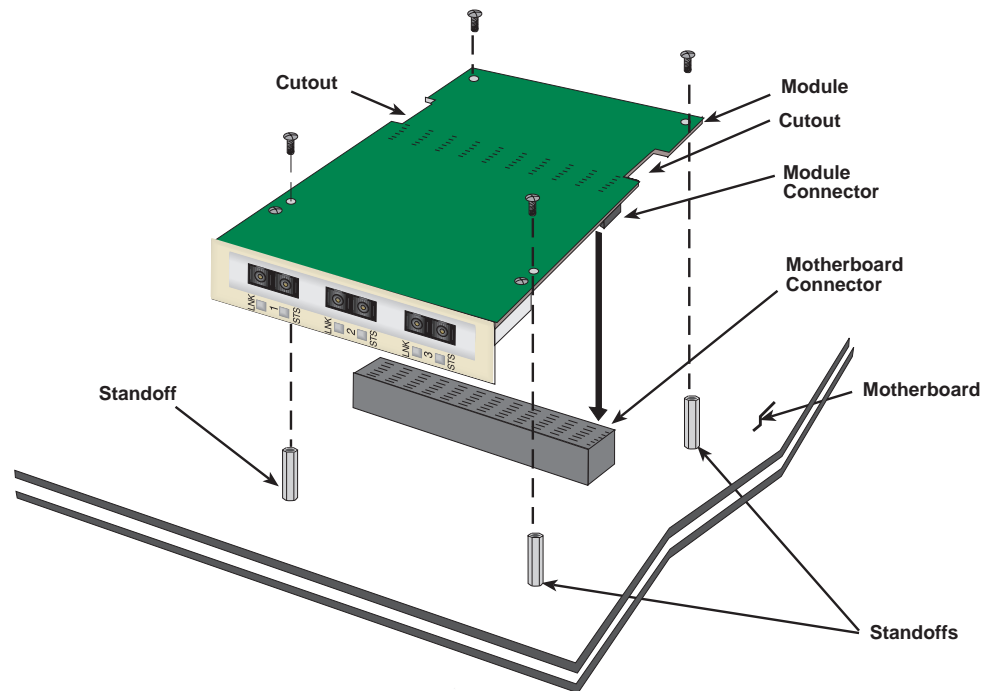

Figure 2-5. Installing an ANIM
4. Refer to Figure 2-5. Hold the ANIM by the provided cutouts on the board of the ANIM.